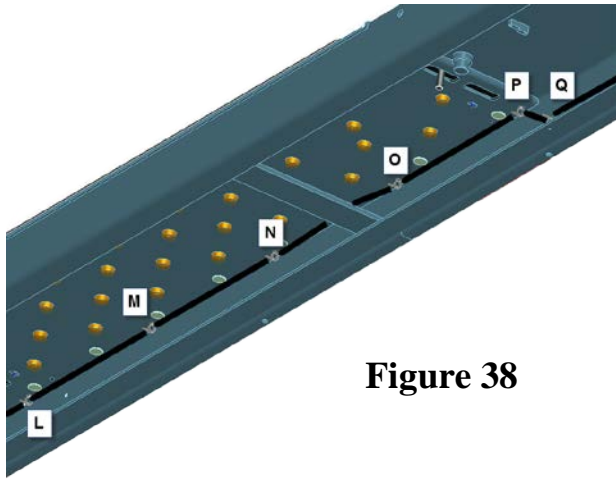
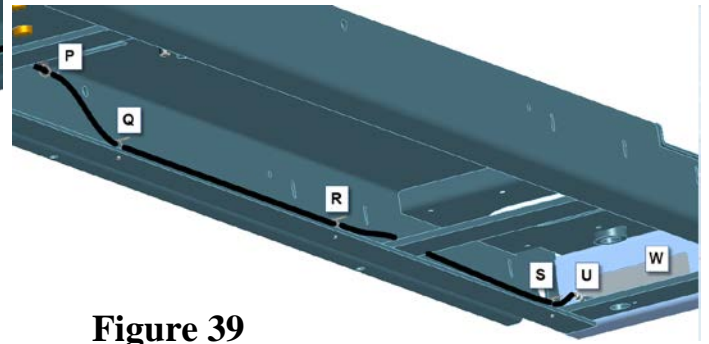

Figure 38
Figure 39
- Continue routing through ties “M”, “N”, “O”, “P” on the rear right alignment pan (**Fig.38**) and ties “Q”, “R”, “S” on the lower left lip of the right side deck (**Fig.39**).
- Connect the free end to the union fitting “U” on the front left cross-member. (**Fig.39**).